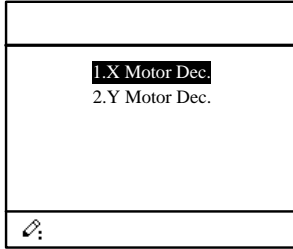

Figure 3-4 Motor-Speed Detection page
Step 4 Input password **36987** on the **CONST** page to enter Motor-Speed Detection page, as shown in Figure 3-4.